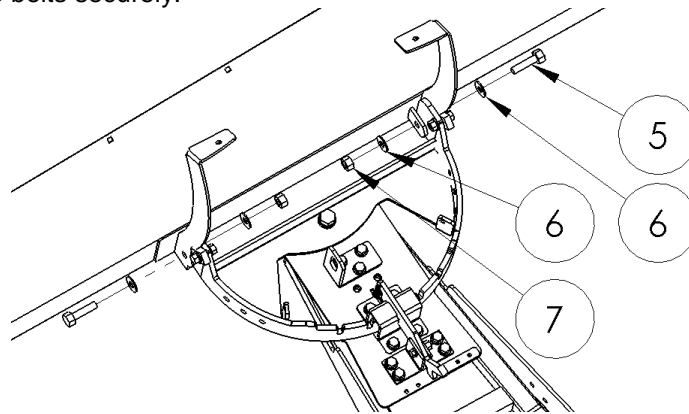

Figure 11
- 9) Position your blade so that the ends of the Swivel Plate fit between the tabs on the Plow Blade. Attach the blade to the Swivel Plate using the 1/2" Bolts (#5), Washer (#6) and Nylock Nut (#7) included in your kit (**Figure 11**). Tighten the bolts securely.